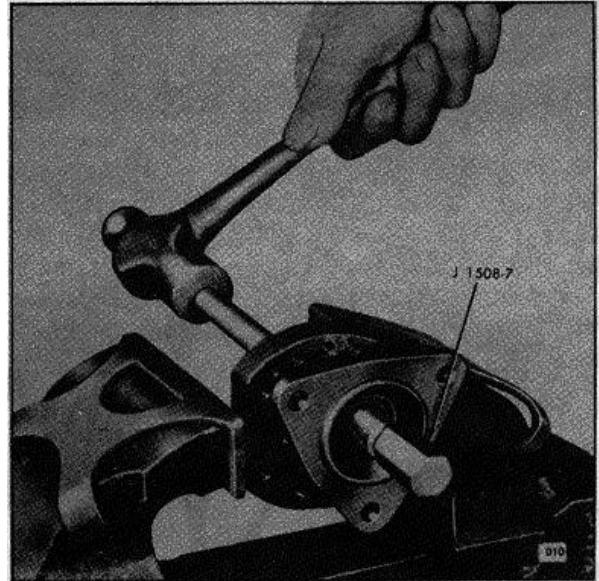

Fig. 4. Removing Oil Seals
7. If the oil seals need replacing, remove them with tool J 1508-7, as shown in Fig. 4, by clamping the pump body in a bench vise and screwing the threaded end of the tool shaft into the outer oil seal (seal nearest to the bolting flange). Then tap the pilot end of the shaft with a hammer to remove the seal. Repeat this operation to remove the inner oil seal.